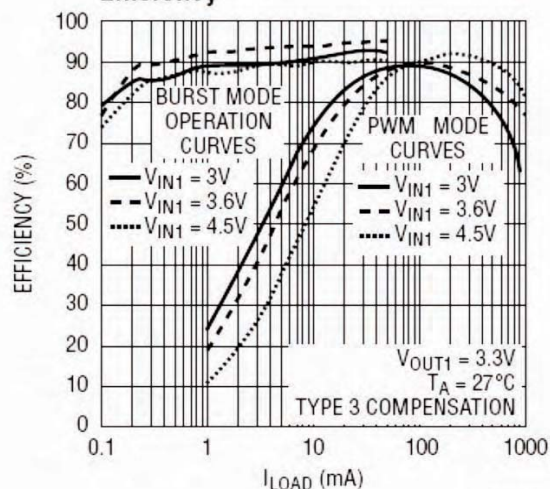

Figure 2: LTC3566 Buck-Boost Regulator Efficiency
The LTC3566 contains a 1A, 2.25MHz constant-frequency voltage mode buck-boost switching regulator, allowing the use of tiny low cost capacitors and inductors less than 1mm in height. The regulator's internal low RDS(ON) switches enable efficiency as high as 94%, maximizing battery run time (see Figure 2 for details). Furthermore, the regulator is stable with ceramic output capacitors, achieving very low output voltage ripple. The buck-boost can be programmed to a